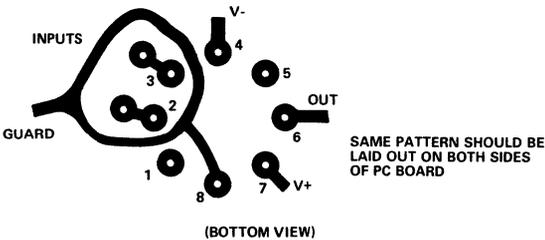
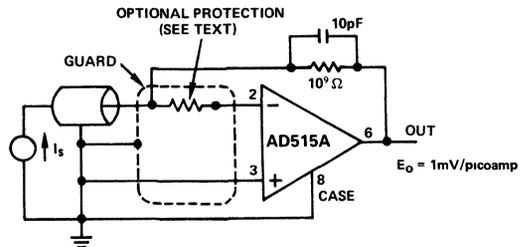

Figure 1. Board Layout for Guarding Inputs with Guarded TO-99 Package
Figure 2. Picoampere Current-to-Voltage Converter Inverting Configuration
2. The use of guarding techniques is essential to realizing the capability of the ultralow input currents of the AD515A. Guarding is achieved by applying a low impedance bootstrap potential to the outside of the insulation material surrounding the high impedance signal line. This bootstrap potential is held at the same level as that of the high impedance line; therefore, there is no voltage drop across the insulation and, hence, no leakage. The guard will also act as a shield to reduce noise pickup and serves an additional function of reducing the effective capacitance to the input line. The case of the AD515A is brought out separately to Pin 8 so that the case can also be connected to the guard potential. This technique virtually eliminates potential leakage paths across the package insulation, provides a noise shield for the sensitive circuitry and reduces common-mode input capacitance to about 0.8pF. Figure 1 shows a proper printed circuit board layout for input guarding and connecting the case guard. Figures 2 and 3 show guarding connections for typical inverting and noninverting applications. If Pin 8 is not used for guarding, it should be connected to ground or a power supply to reduce noise.
3. Printed circuit board layout and construction is critical for achieving the ultimate in low leakage performance that the AD515A can deliver. The best performance will be realized by using a teflon IC socket for the AD515A; but at least a teflon stand-off should be used for the high impedance lead. If this is not feasible, the input guarding scheme shown in Figure 1 will minimize leakage as much as possible; the guard ring should be applied to both sides of the board. The guard ring is connected to a low impedance potential at the same level as the inputs. High impedance signal lines should not be extended for any unnecessary length on a printed circuit; to minimize noise and leakage, they must be carried in rigid, shielded cables.
Many instrumentation situations, such as flame detectors in gas chromatographs, involve measurement of low level currents from high-voltage sources. In such applications, a sensor fault condition may apply a very high potential to the input of the current-to-voltage converting amplifier. This possibility necessitates some form of input protection. Many electrometer type devices, especially CMOS designs, can require elaborate Zener protection schemes which often compromise overall performance. The AD515A requires input protection only if the source is not current limited, and as such is similar to many JFET-input designs. The failure mode would be overheating from excess current rather than voltage breakdown. If the source is not current limited, all that is required is a resistor in series with the affected input terminal so that the maximum overload current is 0.1mA (for example, 1MΩ for a 100V overload). This simple scheme will cause no significant reduction in performance and give complete overload protection. Figures 2 and 3 show proper connections.
The conductor-to-shield capacitance of coaxial cable is usually about 30pF/foot. Charging this capacitance can cause considerable stretching of high impedance signal rise-time, thus cancelling the low input capacitance feature of the AD515A. There are two ways to circumvent this problem. For inverting signals or low-level current measurements, the signal is carried on the line connected to the inverting input and shielded (guarded) by the ground line as shown in Figure 2. Since the signal is always at virtual ground, no voltage change is required and no capacitances are charged. In many circumstances, this will destabilize the circuit; if so, capacitance from output to inverting input will stabilize the circuit.